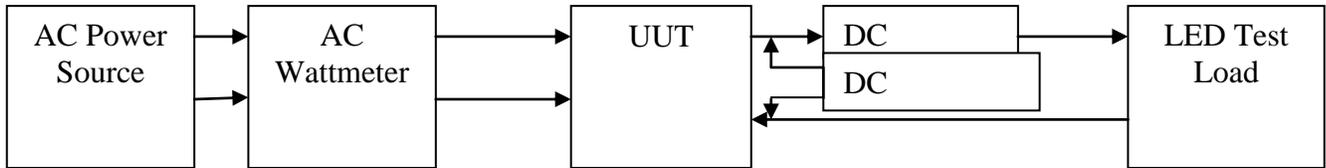

Figure 1. Test Set Up
1. Connect the Unit Under Test (UUT) per the test set up in Figure 1.
Connect the UUT per figure 1.
- Connect the UUT per figure 1 with an LED Load between 20 – 28 V dc.